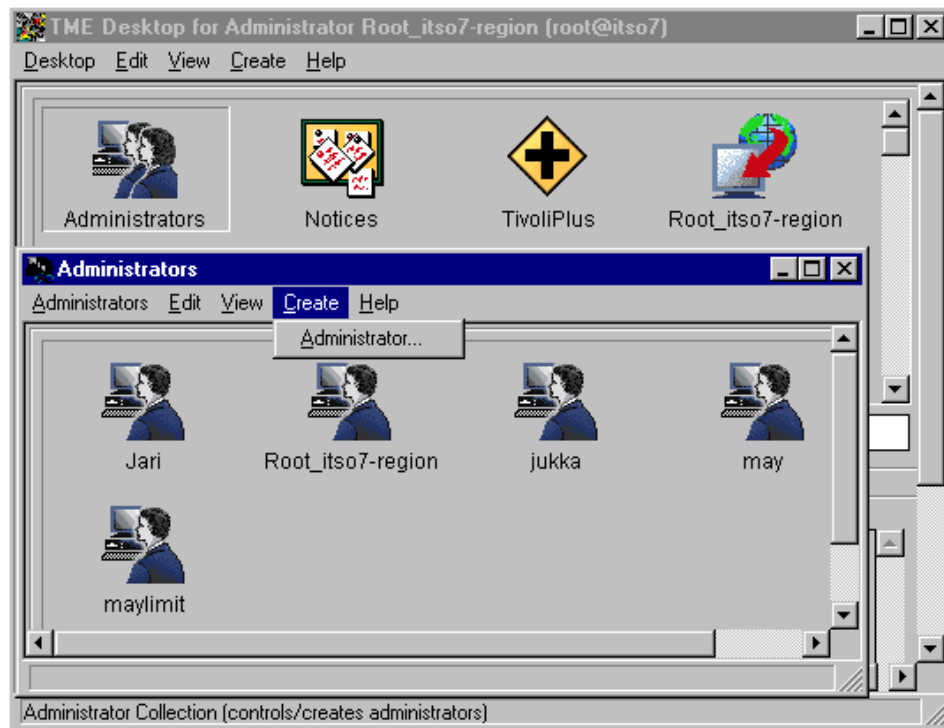

Figure 5. Create Administrator
1. Double Click on the **Administrators** icon and select **Create->Administrator** as shown in Figure 5.